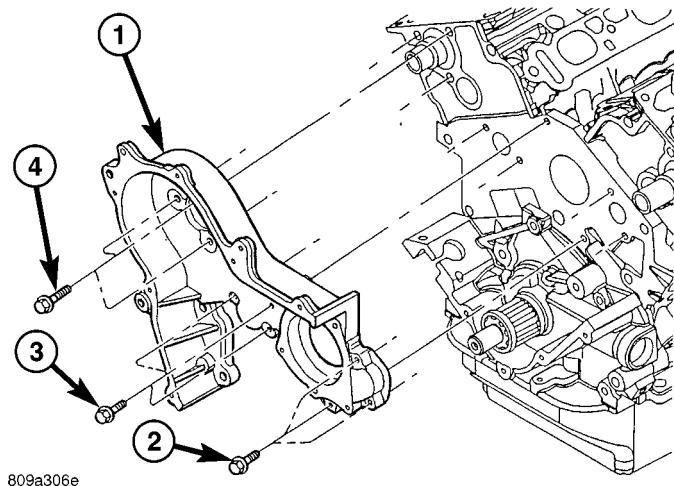
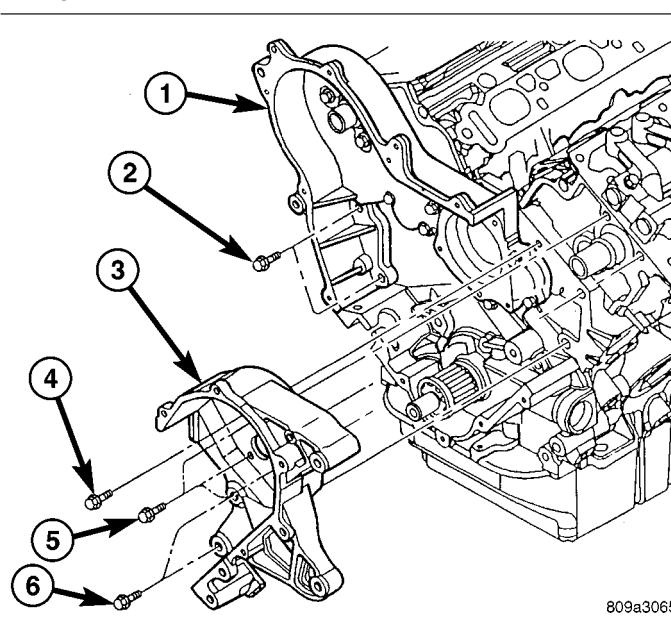

Fig. 140 REAR COVER - RIGHT
Fig. 141 REAR COVER - LEFT
(4) Install rear timing belt covers (Fig. 140) and (Fig. 141). Tighten bolts to the following specified torque: